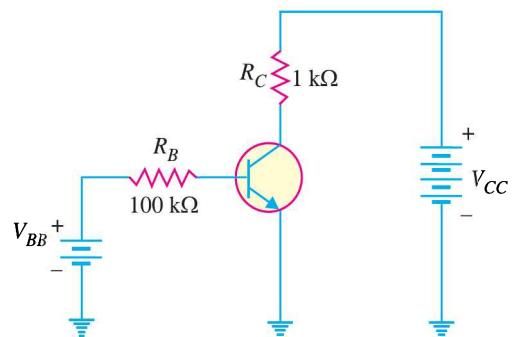

Fig. 8.74
14. A base current of 50 μA is applied to the transistor in Fig. 8.74 and a voltage of 5V is dropped across  $R_C$ . Calculate  $\alpha$  for the transistor. [0.99]